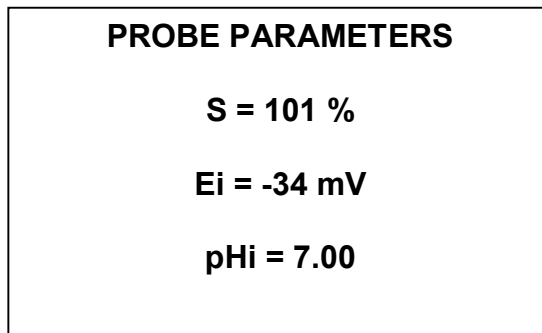

Fig. 2.8
- 7 If calibration against the second buffer solution is not needed, press the  key. The pH-meter calibration to one point is completed. The display shown in Fig. 2.8 shall come up. The pH-meter shall go to step 13.
- 12 Press the  key. Calibration to two points is completed and the display shown in Fig. 2.8 shall come up.